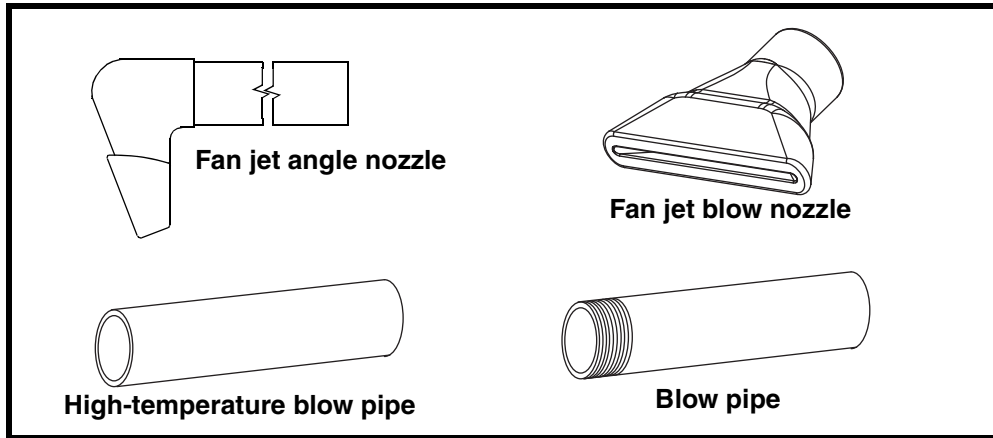

Figure 5. Mounting Nozzles/Pipes for High-Temperature Applications
d. High-temperature nozzles and blow pipes (Fig. 5) should be used in applications where the internal vessel temperature exceeds 500°F.